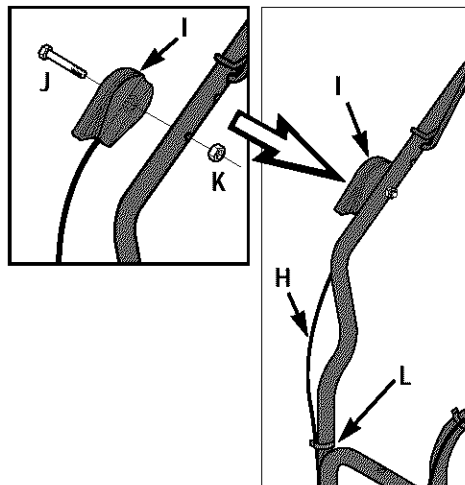

Figure 2-3: Attach throttle lever to right-side handlebar.
1. One end of the Throttle Control Cable (H, Figure 2-3) is attached to the engine. Gently unwind the cable from its shipping position and position the Throttle Control Lever (I) on the outside of the right handlebar, next to the throttle control decal.
2. Secure the Throttle Control Lever to the handlebar with a 1/4-20 x 2 hex hd. screw (J, Figure 2-3) and 1/4-20 hex locknut (K).
3. Use a cable tie (L, Figure 2-3) to secure the throttle cable (H) to the handlebar at the location shown.